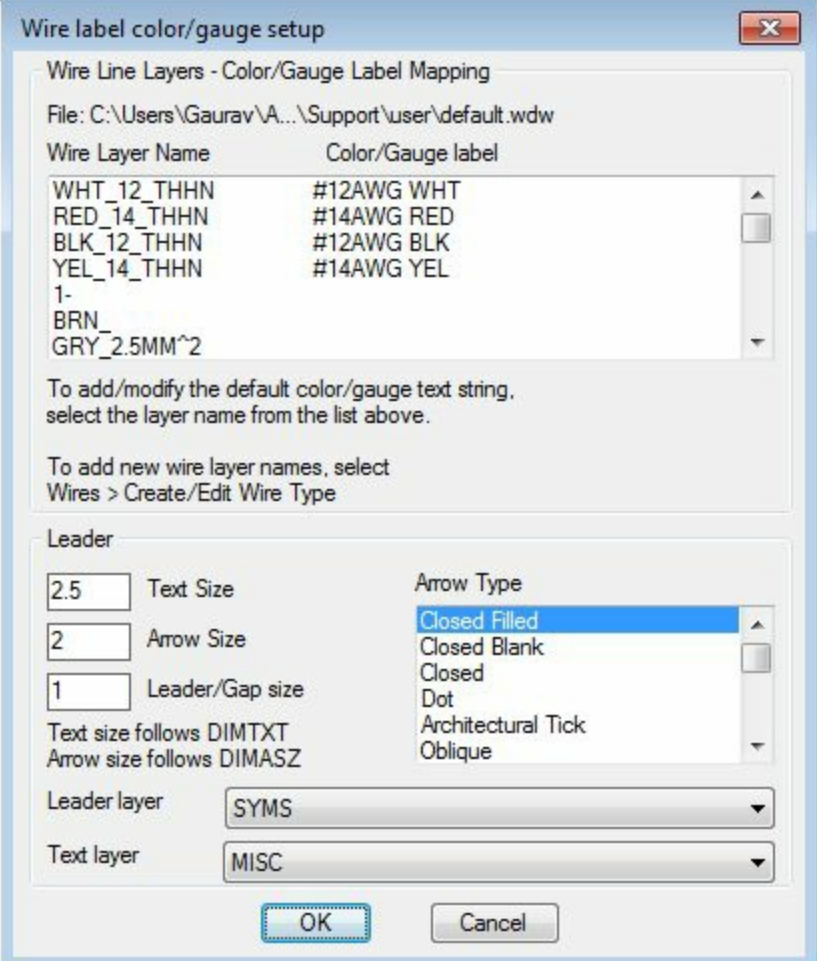

Figure-36. Wire label color or gauge setup dialog box
- Click on the **Setup** button to specify the settings. The **Wire label color/gauge setup** dialog box will be displayed as shown in Figure-36.